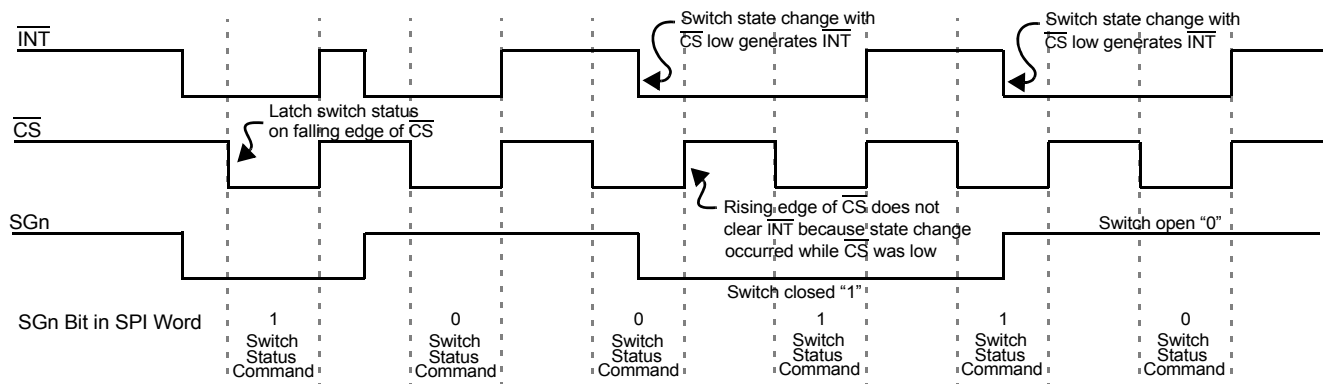

Figure 6. Normal Mode Interrupt Operation
1. $\overline{INT}$ pin is reset to logic [1], except when additional switch changes occur during $\overline{CS}$ low (see Figure 6, page 11).
Figure 6, page 11, is a graphical description of the device operation in Normal Mode. Switch states are latched into the input register on the falling edge of $\overline{\text{CS}}$. The $\overline{\text{INT}}$ to the MCU is cleared on the rising edge of $\overline{\text{CS}}$. However, $\overline{\text{INT}}$ will not clear on the rising edge of $\overline{\text{CS}}$ if a switch has closed during SPI communication ($\overline{\text{CS}}$ low). This prevents switch states from being missed by the MCU.